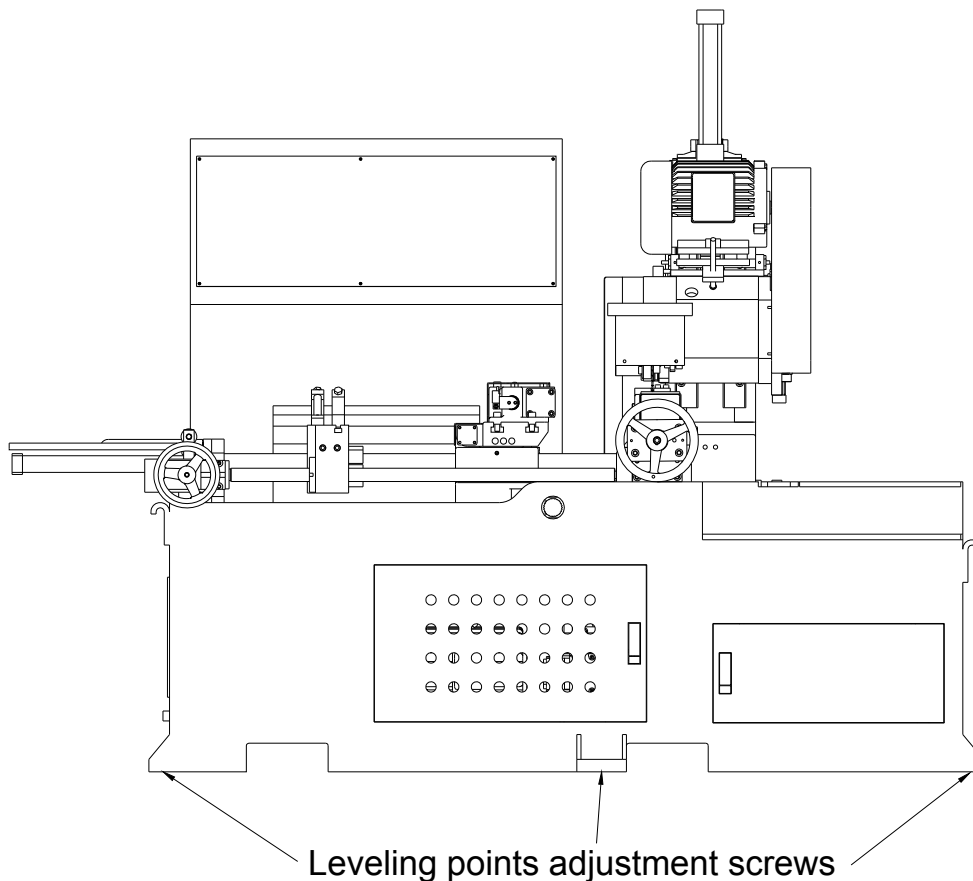

Figure 4-2 Leveling points
1. Level the machine by means of the adjustment screws.(Figure 4-2)